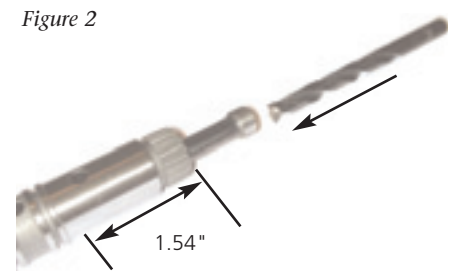

Figure 2
3. Reinstall the inner tube by pressing in place using a $1\frac{1}{64}$ " (.297" diameter) transfer punch or blunted drill bit. Take care to fully seat the inner tube in the pump shaft. The installed height should be approximately 1.54" from the end of the pump shaft (Figure 2).